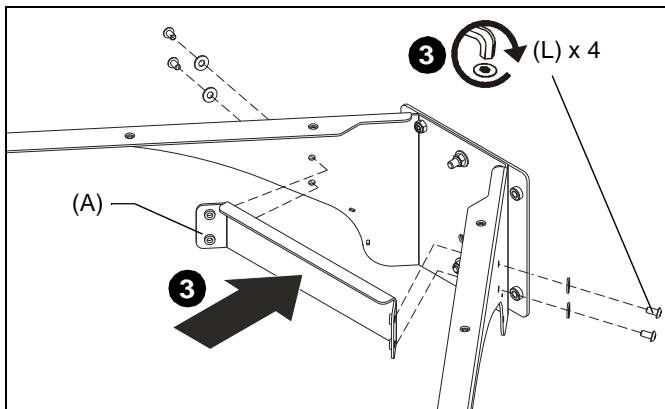

Figure 2
3. Fasten table brace (A) to bracket assembly using four #10 flat washers (P) and four 10-24 x 3/8" button head cap screws (L). (See Figure 2)